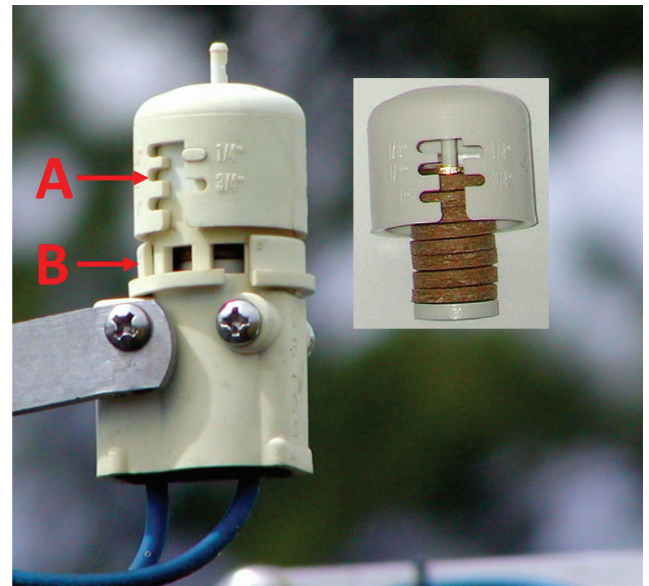
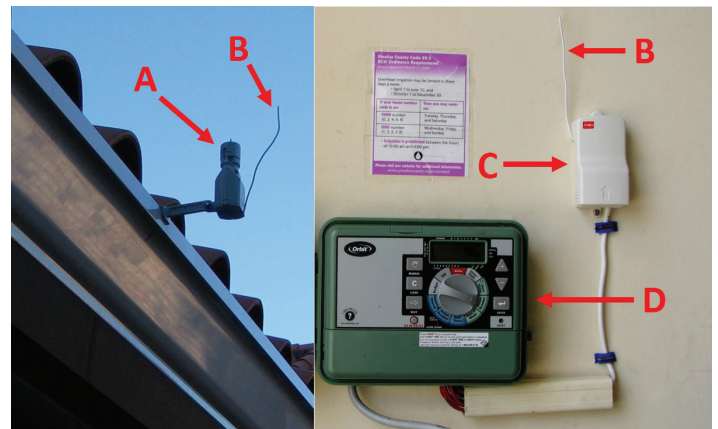

Figure 3. Wired rain shutoff device with expanding disks: (a) Rain threshold set-point slots; (b) Vent ring. The insert shows the expanding hygroscopic disks.
Figure 4. Wireless rain shutoff device with expanding disks: (a) Transmitter, (b) Antenna, (c) Receiver, (d) Irrigation Controller or Timer.
**Expanding disks**—These devices are the most popular rain sensors due to their good reliability, low cost, simple installation, and low maintenance. There are both wired and wireless versions (Figure 3 and Figure 4). Some advantages of the wireless models include a quicker and easier
Hygroscopic disks absorb water and expand proportionally to rainfall amount, triggering a pressure switch. The expansion space can be easily adjusted by rotation of the disk cover to a predetermined amount of rain required to trigger the switch. The amount of rain that will interrupt the irrigation system is marked on the adjustment cap (Figure 3 and Figure 4). The switch remains open as long as the disks are swollen. When the rain has stopped, the disks begin to dry out and contract, and the switch closes again.
in the path of sprinkler spray. It is typically installed near the roofline on the side of a building (Figure 4). However, it should not be mounted such that it comes into contact with water running directly off the roof. If vandalism is not a threat, it can be mounted lower on a fence post or deck railing. It is important that trees, overhangs, and awnings are not blocking direct rainfall onto the device.